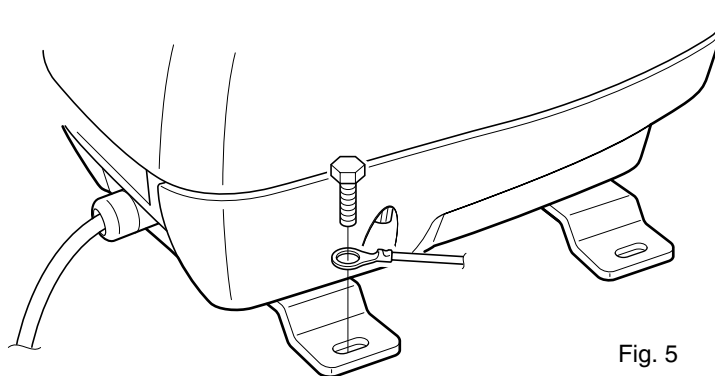

Fig. 5
- ② Apply lubricant specified below or an equivalent one to the motor bearing\*3, if required.
- ③ Connect the grounding wire to the ground plate with the supplied terminal if required. (Fig. 5)